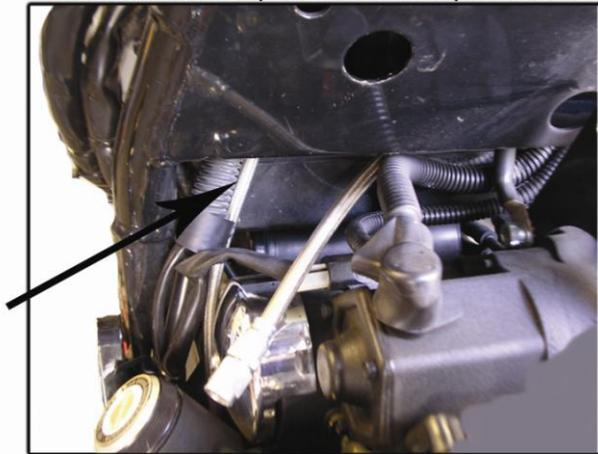

Fig. 8
7. Install the breather line, routing the line up from the bottom of the right frame rail in line with the wiring harness, pushing the line up behind the starter (see figure 8) below the seat there is a plate connecting the frame and there is a gap just large enough to push the breather line up in there creating a loop. Bring the line down towards the -3 fitting, screw on finger tight. Tighten the fitting after the line and element is in place.